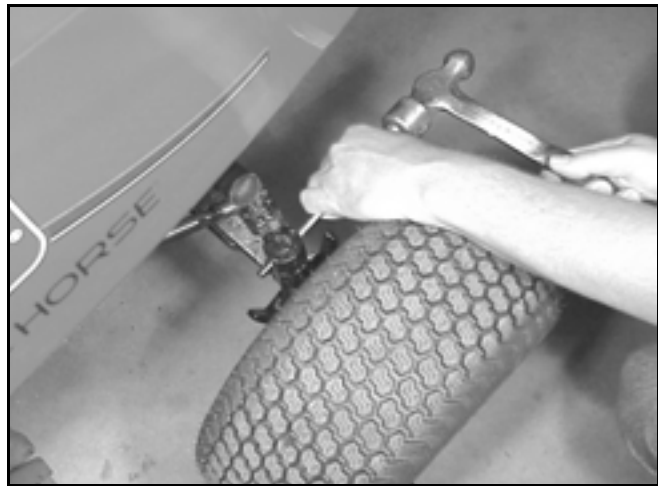

Figure 15
2. Using a drift punch and hammer, drive the roll pin out of the front spindle arms and remove the arms from the spindles (Figure 15). Remove the wheels with steering spindles, from the axle.